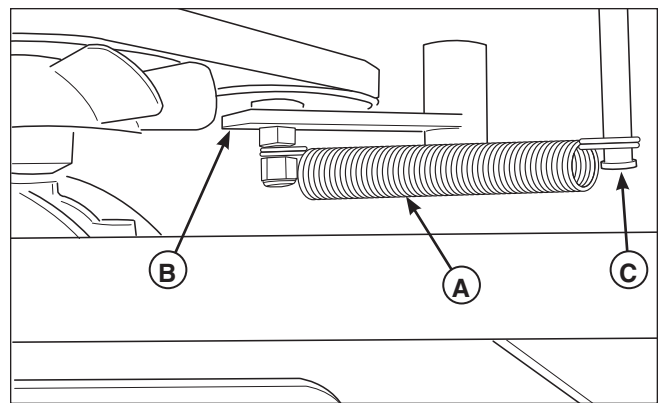

Figure 17. Transaxle Drive Belt
4. Insert a spring hook through the opening in the right-hand side of the engine deck. Use the coat hanger to remove the spring (**A, Figure 17**) from the anchor pin (**C**).